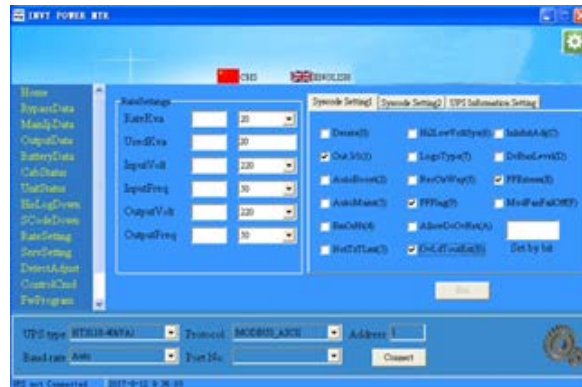

Fig. 3-14 Settings
c. Power on; Use MTR configure as Fig. 3-14. Change rated capacity and use capacity to 20, enable the Out 3/1 option. After that, power off and power on the UPS.